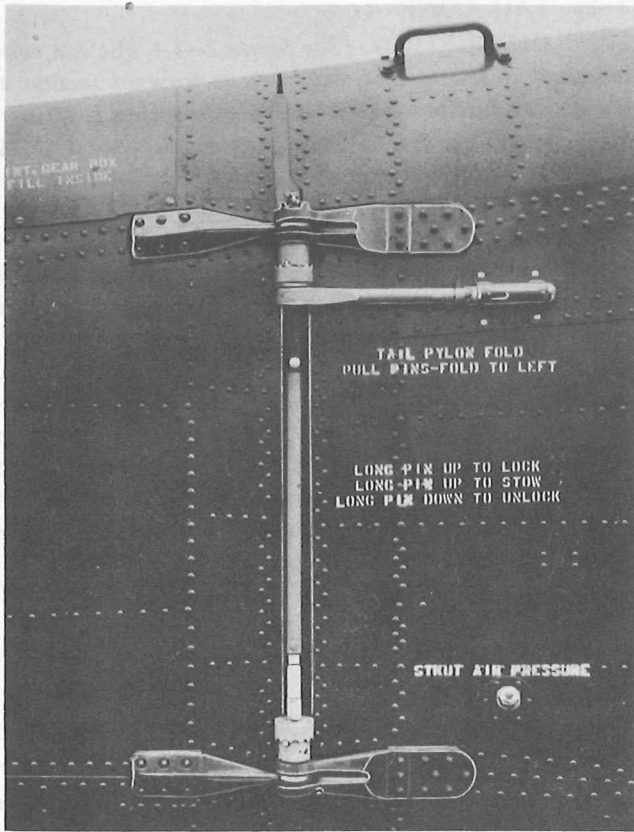

Figure 2-7. Pylon Folding Hinge Lock
2-87. DESCRIPTION. (See figure 2-1.) The tail cone is bolted to the rear of the fuselage forward section at the mating forward section and tail cone frames at fuselage station 316. The tail cone supports the pylon (foldable tail) section and the tail landing gear. Access to the tail cone attachment bolts, tail rotor flight and tail landing gear lock controls, tail rotor drive shaft and pylon light wiring is gained through the electronics and heater compartments. A catwalk is installed within the tail cone to support maintenance personnel when servicing the tail cone section and equipment. The catwalk, composed of a honeycomb core of aluminum foil between two aluminum sheets, is secured with screws to the skeleton assembly frames. The pylon folding hinge lock, which secures the pylon to the tail cone at the upper and lower hinges, is located between the hinges on the right side of the tail cone. (See figure 2-7.)
2-91. DESCRIPTION. (See figure 2-7.) The pylon folding hinge lock and pin signal flag are installed on the aft, right side of the tail cone between the upper and lower tail cone hinges. The hinge lock secures the pylon in the unfolded, or flight, position. The hinge lock consists primarily of a torque tube, two jack pin nuts, two collars, two receptacles, two jack screw pins, a ratchet wrench and a sleeve. A jack pin nut is fastened to each end of the torque tube. The torque tube and jack pin nuts are supported at each end by a collar. The collars are screwed onto receptacles that are bolted to the upper and lower tail cone hinges. A jack screw pin is threaded into each jack pin nut and extends into the hinge receptacle. The ratchet wrench is installed over the hexagonal shoulder of the upper jack pin nut and is held in place by the sleeve which is bolted to the torque tube. When the wrench is actuated, the torque tube and jack pin nuts turn, causing the jack screw pins to move through the receptacles and into the hinges, thus locking the pylon to the tail cone. When the upper jack screw pin is retracted from the hinge, the red pin
2-97. DESCRIPTION. (See figure 2-1.) The pylon supports the tail rotor assembly and associated transmission equipment and the stabilizer. The pylon is secured to the tail cone by hinges installed on the tail cone and pylon bulkheads and by the pylon folding hinge lock. The pylon hinge lock wrench (figure 2-7), located on the right side of the tail cone, releases pins from the adjacent hinges to unlock the pylon and allow it to be folded forward along the left side of the tail cone (figure 1-10). When in the folded position, the pylon can be secured by engaging the lock rod on the tail cone in the wedjit fitting on the pylon. (Refer to paragraph 1-21.) Hand holds are provided near the trailing edge of the pylon to assist in folding, unfolding and hoisting the pylon. The intermediate and tail rotor gear boxes are bolted to frames inside the pylon. The tail rotor disconnect coupling is bolted to the pylon hinge bulkhead. All items inside the pylon are accessible by means of removable panels and fairings. The lower fairing (5, sheet 1, figure 1-4), which is screened for ventilation, provides access to the disconnect coupling, disconnect shaft assembly and intermediate gear box. The upper and lower stabilizer fairings (4) provide access to the stabilizer turnbuckle assembly. The screened opening on each side of the pylon between the hand holds provides ventilation of the intermediate gear box. The large panel (27) on the right side of the pylon provides access to the intermediate gear box. The lower circular panel (28) on the left side of the pylon provides access to the tail rotor flight controls and the tail rotor drive shaft support bearing. The upper circular panel (29) provides access to the rubber coupling at the tail rotor gear box. A top fairing grill (1) and a tail rotor gear box fairing cover (3) are installed at the top of the pylon. The yellow position light is installed at the extreme aft end of the pylon.